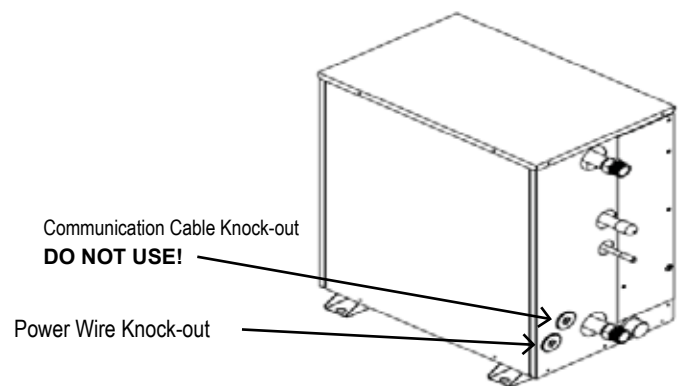
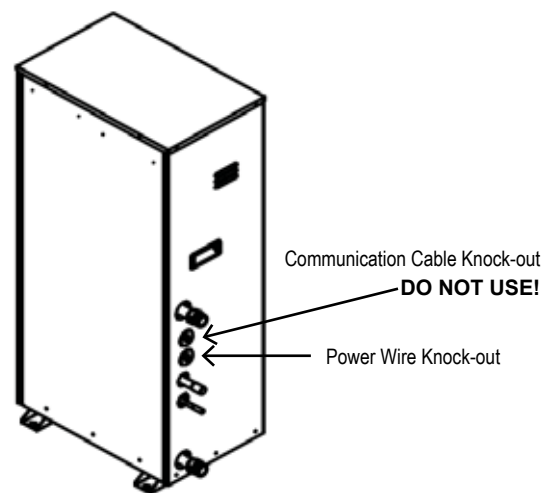

Figure 25: (K2) Hydro Kit Medium Temperature
Figure 26: (K3) Hydro Kit High Temperature
4. Remove the knock-out plug from the unit end panel (Figure 25 for (K2) and Figure 26 for (K3)).
8. Route the wire inside the control box paying special attention to keep the wire away from communications cables by a minimum of two (2) inches.